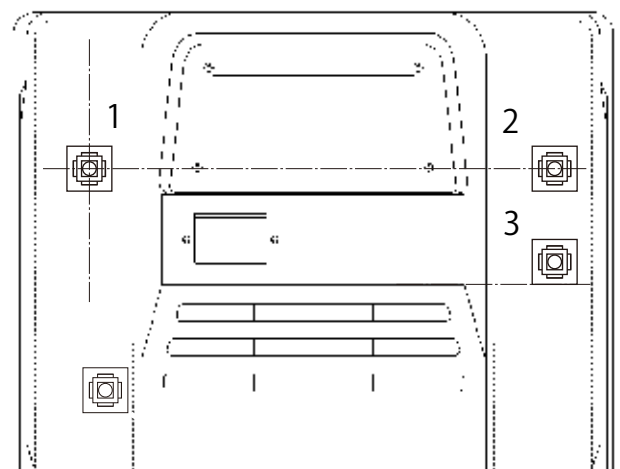
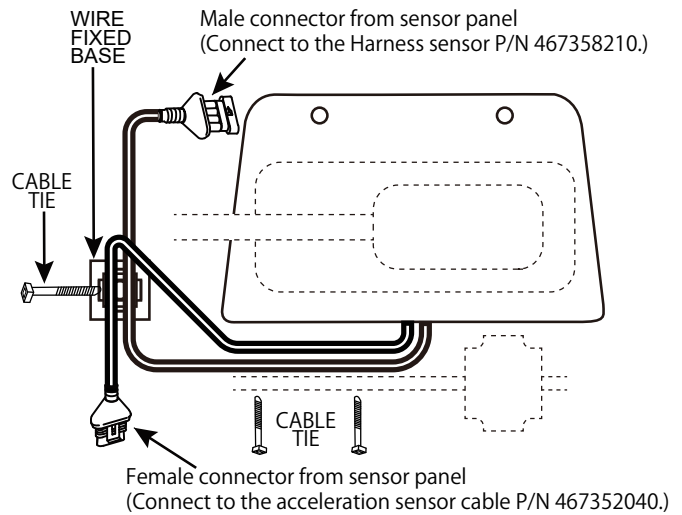

Figure 14. Mount Position of Wiring Fixed Base
Figure 16. Secure the Sensor Panel Cables
5. Secure the three wiring fixed bases (P/N 955409080) on the back of rear cover as shown in Figure 14.
- Secure the sensor panel cables to the back of the rear cover with a cable ties (P/N 506010070) and the wiring fixed base (P/N 955409080) that were secured earlier at Figure 14. See Figure 16.